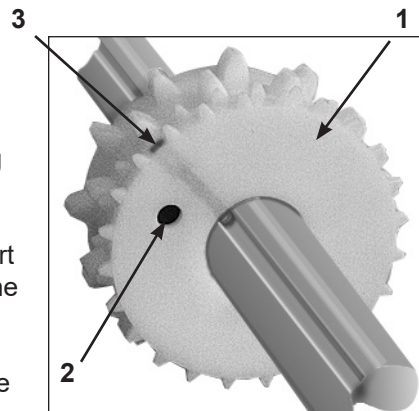

Fig 10
For sowing fine seeds the Kiwifruit Seeder is equipped as standard with a combined normal and fine seed "Elite" metering wheel (1). During grain sowing and other larger varieties of seed both the normal and fine seed metering wheels are coupled and both rotate. In order to convert the seed drill to sow fine seed insert the crank handle and rotate clockwise until the holes (2) of the fine seed wheel are visible (Fig 10).
CAUTION Care should be taken when tightening the grub screws on the fine seed wheel (Page 20, Fig 10/3). Adjust the grub screw until the movement of the metering wheel just stops, then tighten no more than 1/8 of a turn.